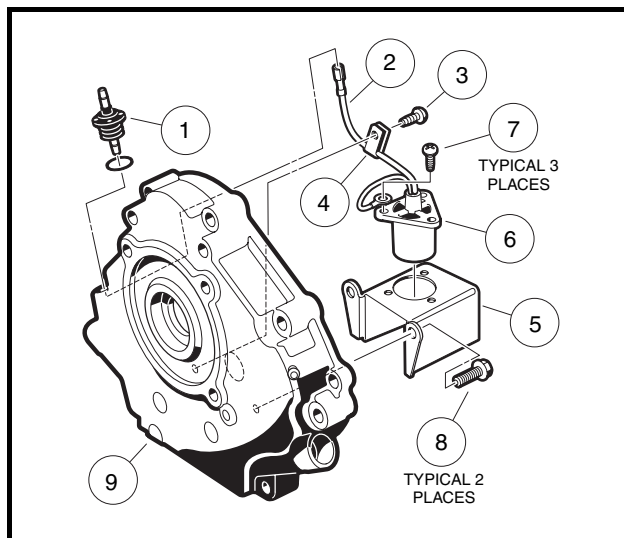

Figure 15-5 Oil Level Sensor
1. If the oil level sensor was removed from the bracket, install sensor (6) into bracket (5) and secure with three screws (7) (**Figure 15-5, Page 15-5**). Tighten to 17 in-lb (1.9 N·m).
3. Connect sensor wire (2) to cord connector (1) (**Figure 15-5, Page 15-5**).
4. Install screw (3) through wire clamp and into crankcase cover. Tighten to 30 in-lb (3.4 N·m).